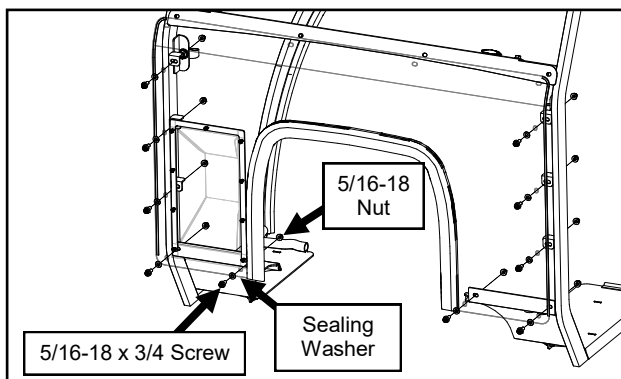

Fig. 10.1 (Install Clear Plastic Cowl)
- 10.1 With assistance, slide the clear plastic cowl down over the vehicle, flexing it to go around behind the loader arm bracket. Loosely secure the lower (10) slots with fasteners. See Figure 10.1.